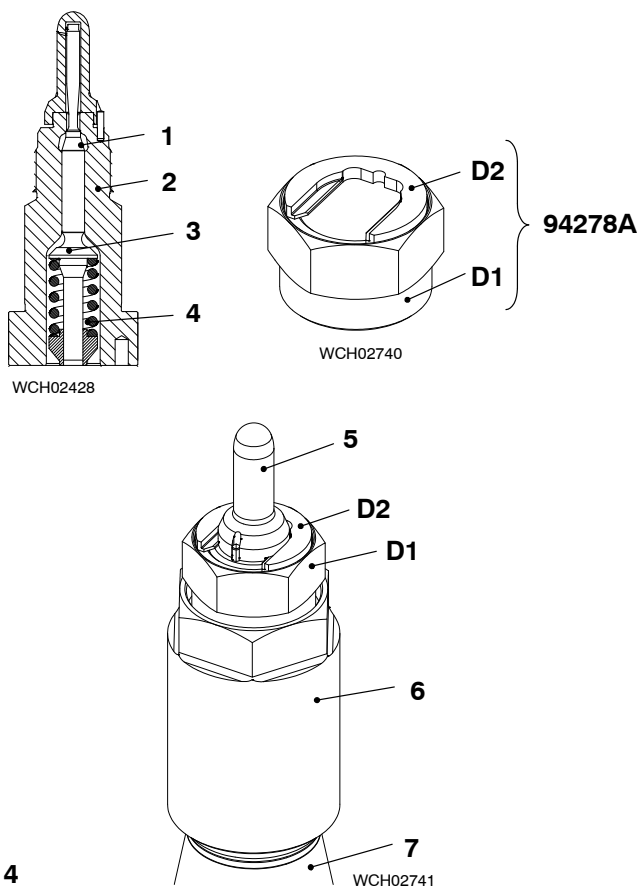

Fig. 4
- 2) Make sure that the needle (1, Fig. 4), compression spring (4) and tappet (3) are removed from the nozzle body (2).
- 3) Attach the nozzle body (2) with coupling nut (6) to the injection valve (7) on the test bench.
- 4) Attach the hexagonal nut (D1, 94278A) to the nozzle body (2).
- 5) Put the plate (D2) in the clearance between the nozzle body (2) and the nozzle tip (5).
- 6) Carefully turn the hexagonal nut (D1) up to remove the nozzle tip (5).
- 7) Remove the nozzle tip (5) from the nozzle body (2).
- 8) Remove the tool (94278A) from the nozzle tip (5).